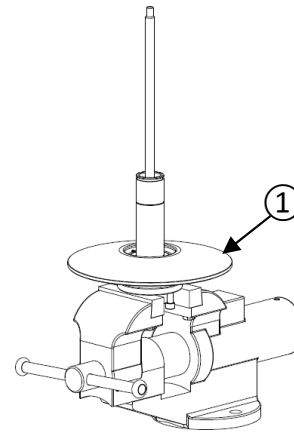

Figure 29
- Install the fixed sheave ① on the disassembly tool (figure 29).